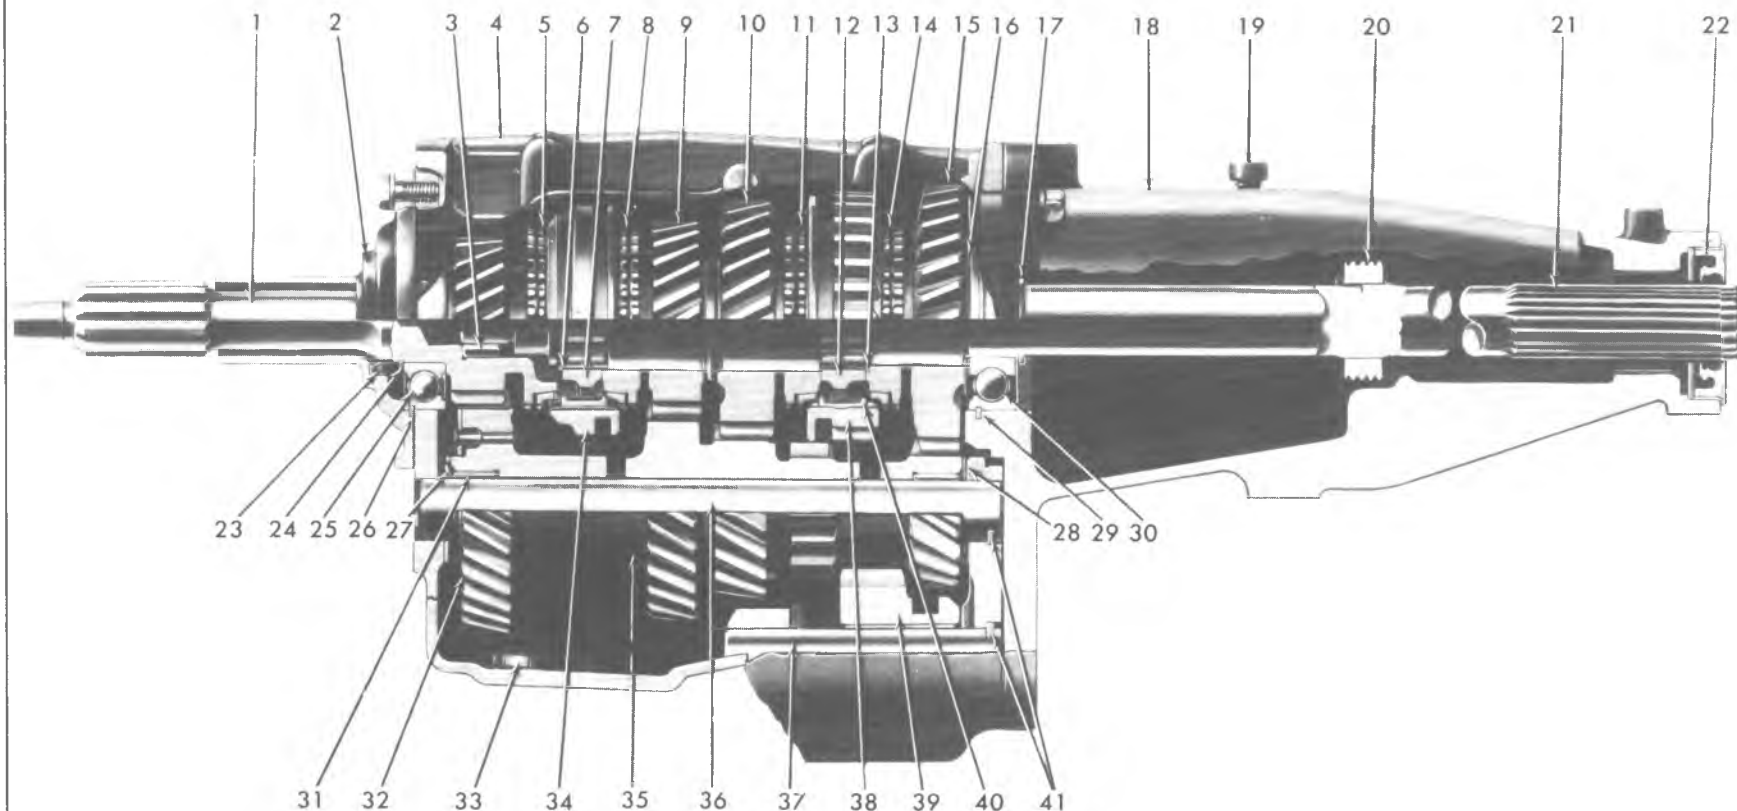

Fig. 7B-1J-4-Speed 76mm Transmission Cross Section
7. Using J-22246 at the front of the countershaft, drive the shaft and its woodruff key out the rear of the case. Tool J-22246 will now hold the roller bearings in position within the counter gear bore. Remove the gear and bearings (Fig. 7B-5J).
8. Remove reverse idler gear stop ring. Use a long drift or punch through the front bearing case bore and drive the reverse idler shaft and woodruff key through the rear of the case (Fig. 7B-6J).
1. Using snap ring pliers, remove the 3rd and 4th speed sliding clutch hub snap ring from mainshaft and remove clutch assembly, third gear blocker ring and third speed gear from front of mainshaft (Fig. 7B-7J).
3. Remove rear bearing snap ring from mainshaft groove (Fig. 7B-8J).